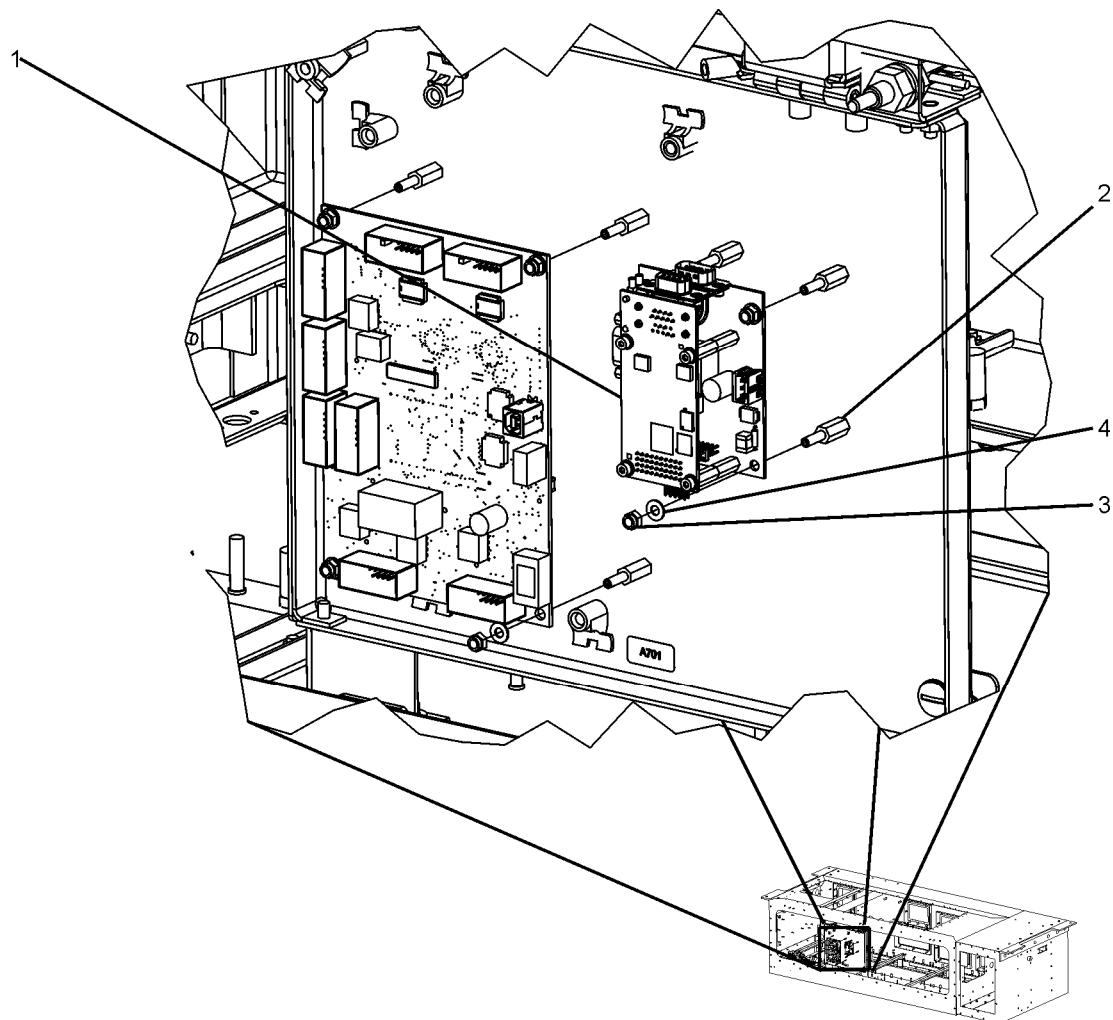

Figure 5-56: A751 Anchor Points
6. Detach A751 (see Figure 5-56). A751 (1) is mounted atop four setscrews (2) and is held in place with M4 locking nut (3) and M4 washer (4) sets. Remove the fasteners to detach the A751.
2. Insert A751 (see Figure 5-56). Place the board with the plugs labeled B and C on the top facing outward.
3. Attach A751 (see Figure 5-56). A751 (1) is mounted atop four setscrews (2) and is held in place with M4 locking nut (3) and M4 washer (4) sets. Affix the fasteners and tighten to 22 lb-in (2.5 Nm).